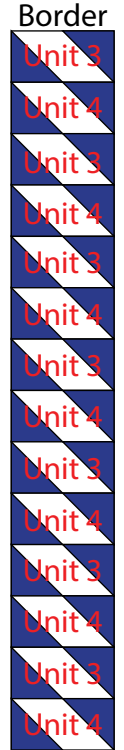

Fig. 10
7. Sew together (7) Unit 3 strips and (7) Unit 4 strips, lengthwise and alternating them from top to bottom, to make the Right Side Border (Fig. 10).